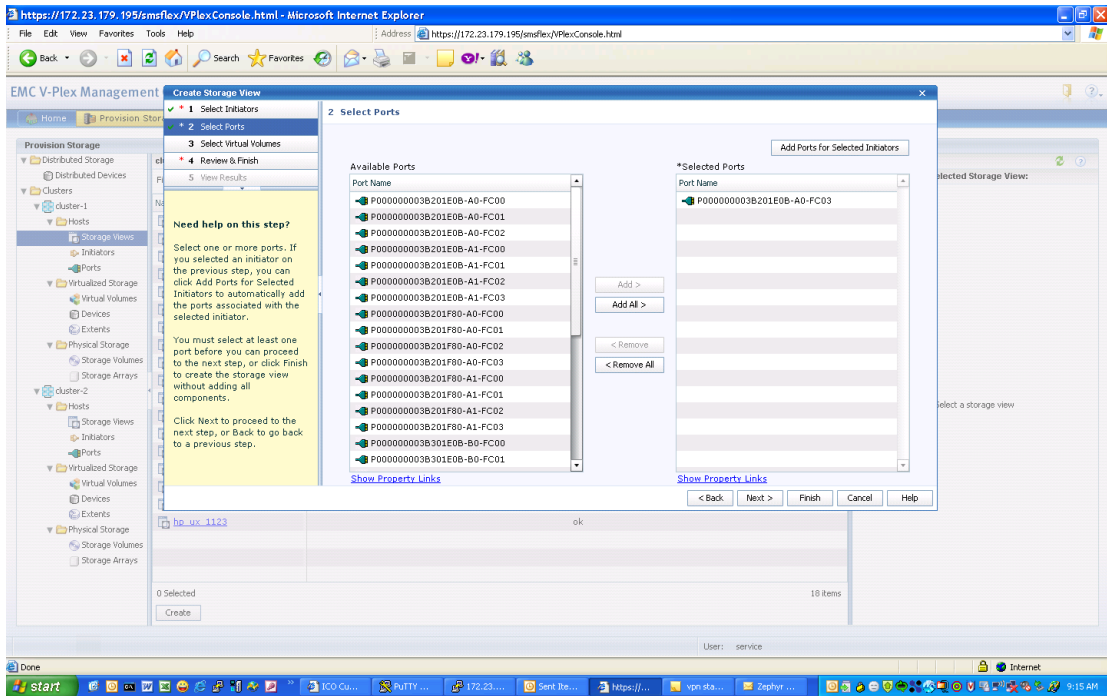

Figure 36 Add ports to storage view
3. Adding ports to the storage view, as shown in Figure 36.